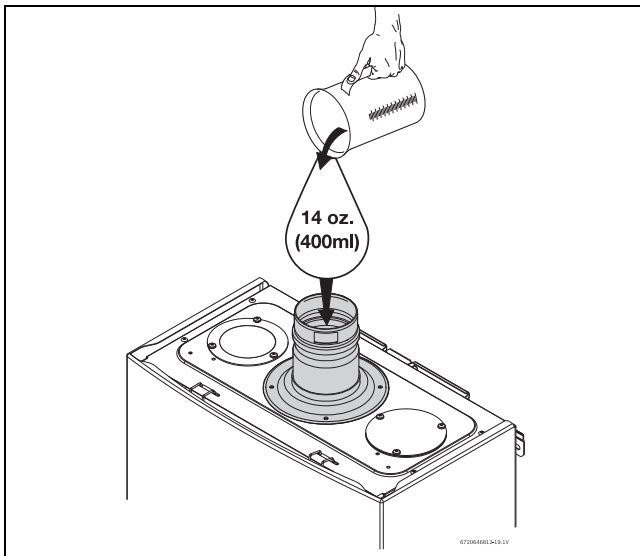

Fig. 34 Filling the condensate trap at start up
- ▶ Fill the condensate trap by pouring approx. 14 oz. (400ml) of water into the exhaust accessory on the top of the appliance, see fig. 34.